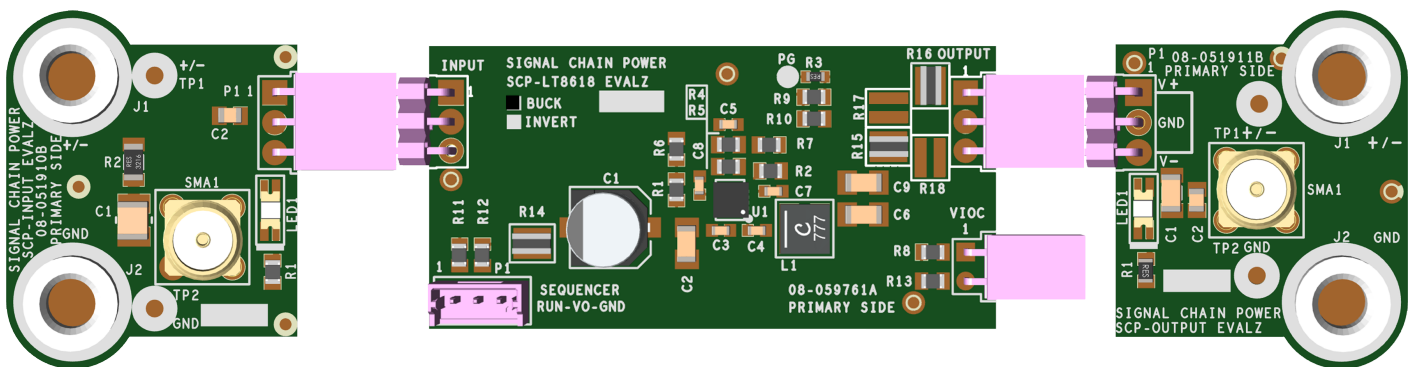

Figure 2. Proper Measurement Equipment Setup (Use SMA connectors for Measuring Input or Output Ripple)
2. Connect the SCP-INPUT-EVALZ and SCP-OUTPUT-EVALZ boards to the SCP-LT8618-BEVALZ (refer to Figure 2) and connect the input board to a voltage source, V_{SOURCE} . Connect the output board to a voltmeter or dynamic load. Slowly raise the input voltage until the SCP-LT8618-BEVALZ powers up into regulation and sweep V_{SOURCE} through the desired range of operation.